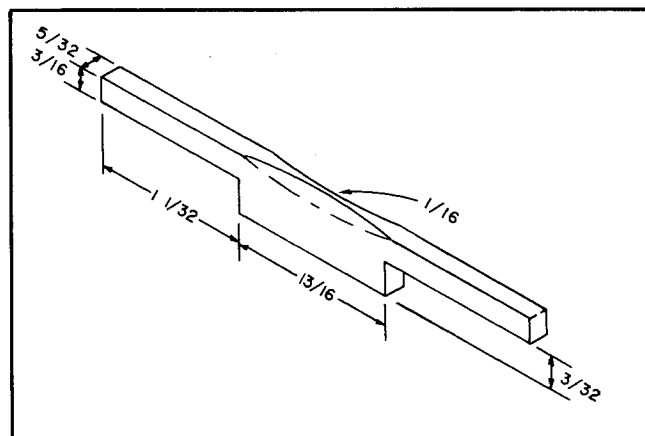

Figure 5
2. Insert a flat blade screwdriver between the cover halves as shown, or use tool shown in Figure 5.